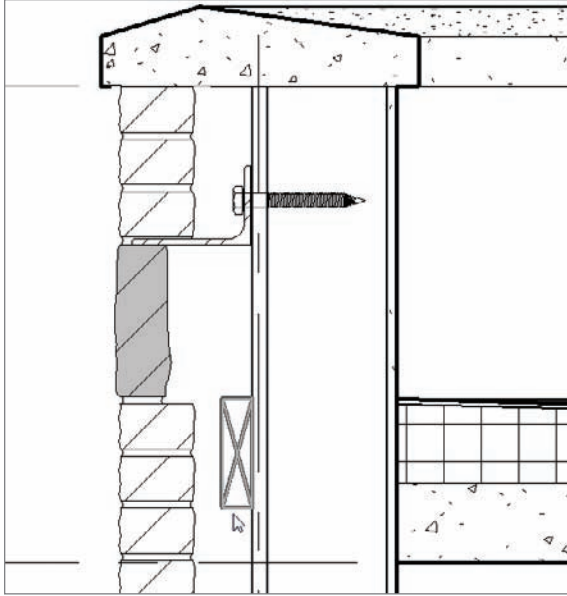

FIGURE 12.40 Adding the wood blocking
7. Go to the Annotate tab, click the Component > Detail Component button, and place the 2×6 into the wall, as shown in Figure 12.40.
12. Click OK. Your blocking should look like Figure 12.40.